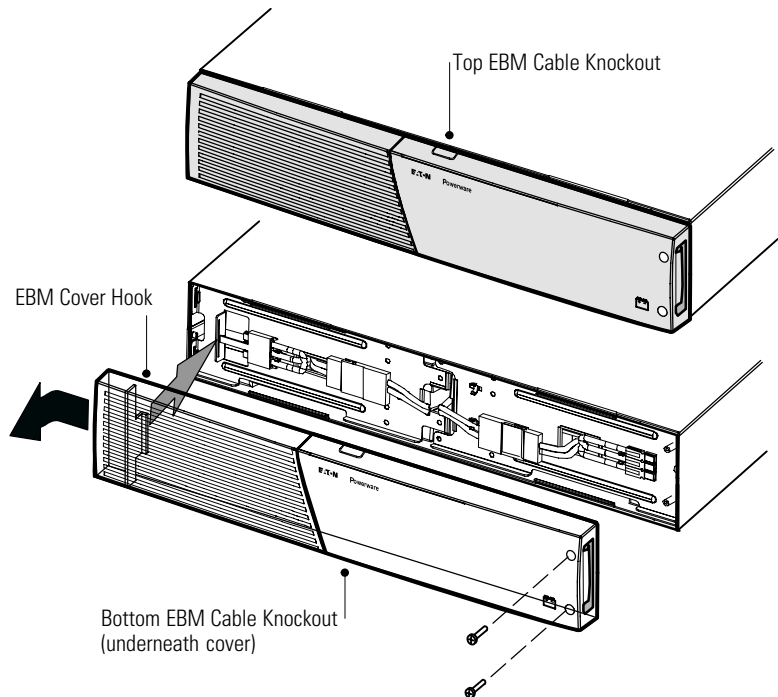

Figure 27. Removing the EBM Front Cover
1. Remove the front cover of each EBM. See Figure 27.
5. Remove the front cover of each new EBM. See Figure 27.
6. For the bottom (or only) EBM, remove the EBM cable knockout on the top of the cover. See Figure 27 for the location of the top EBM cable knockout.
7. If you are installing more than one new EBM, for each additional EBM remove the EBM cable knockout on the top **and** bottom of the EBM front cover. See Figure 27 for the location of the EBM cable knockouts.
To replace the cover, verify that the EBM cables are routed through the EBM cover knockouts, then slide the cover from the left to the right until it connects with the cover hook near the left side of the EBM cabinet. Reinstall the two screws on the right side of the front cover. For reference, see Figure 27 on page 69.